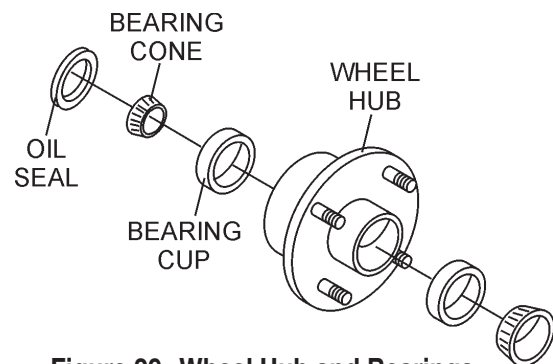

Figure 29. Wheel Hub and Bearings
1. After every 3 months of operation, remove the hub dust cap and inspect the wheel bearings (Figure 29). Once a year, or when required, disassemble the wheel hubs remove the old grease and repack the bearings forcing grease between rollers, cone and cage with a good grade of high speed wheel bearing grease (**never** use grease heavier than 265 A.S.T.M. penetration ("No. 2."))